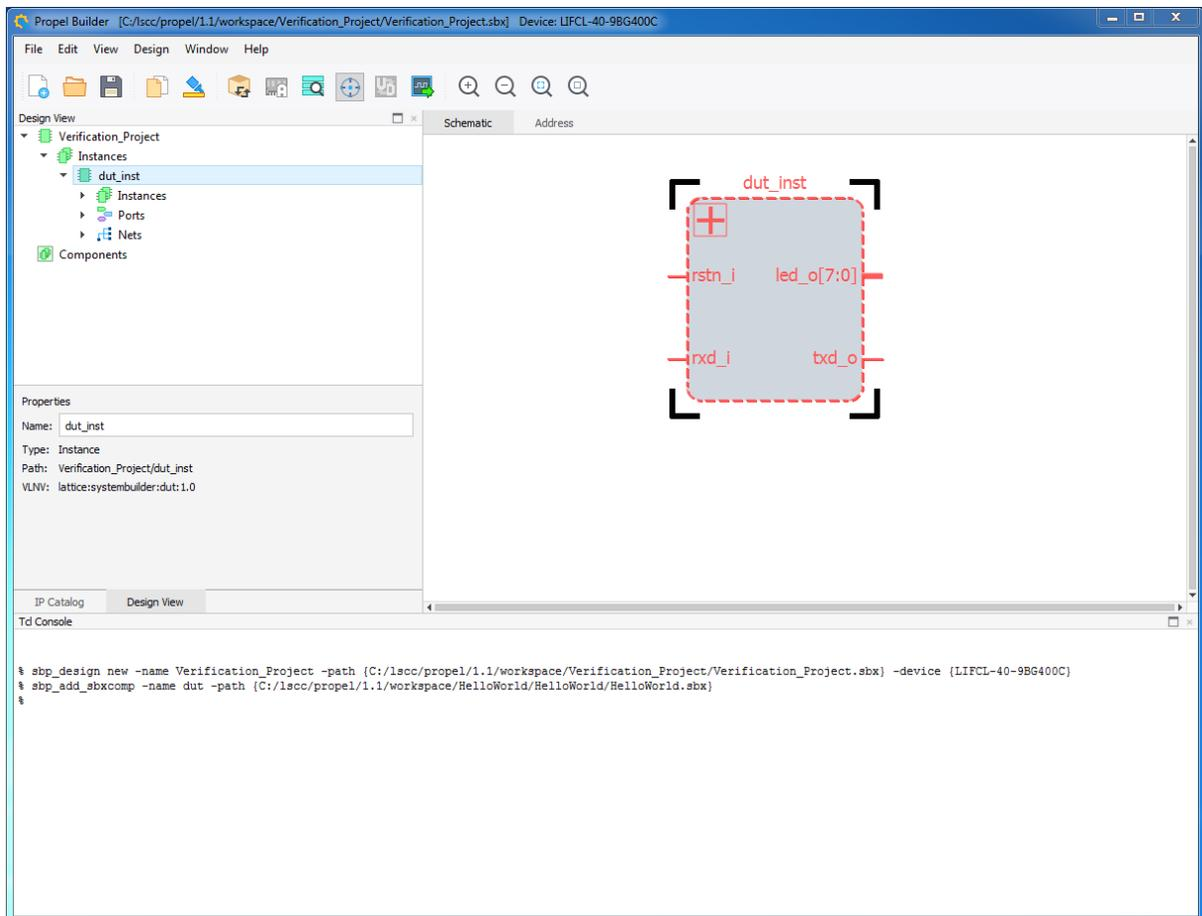

Figure 2.53. Verification Project
9. Click **Finish**. A dut_inst of SoC project can be seen in the Schematic view (Figure 2.53).